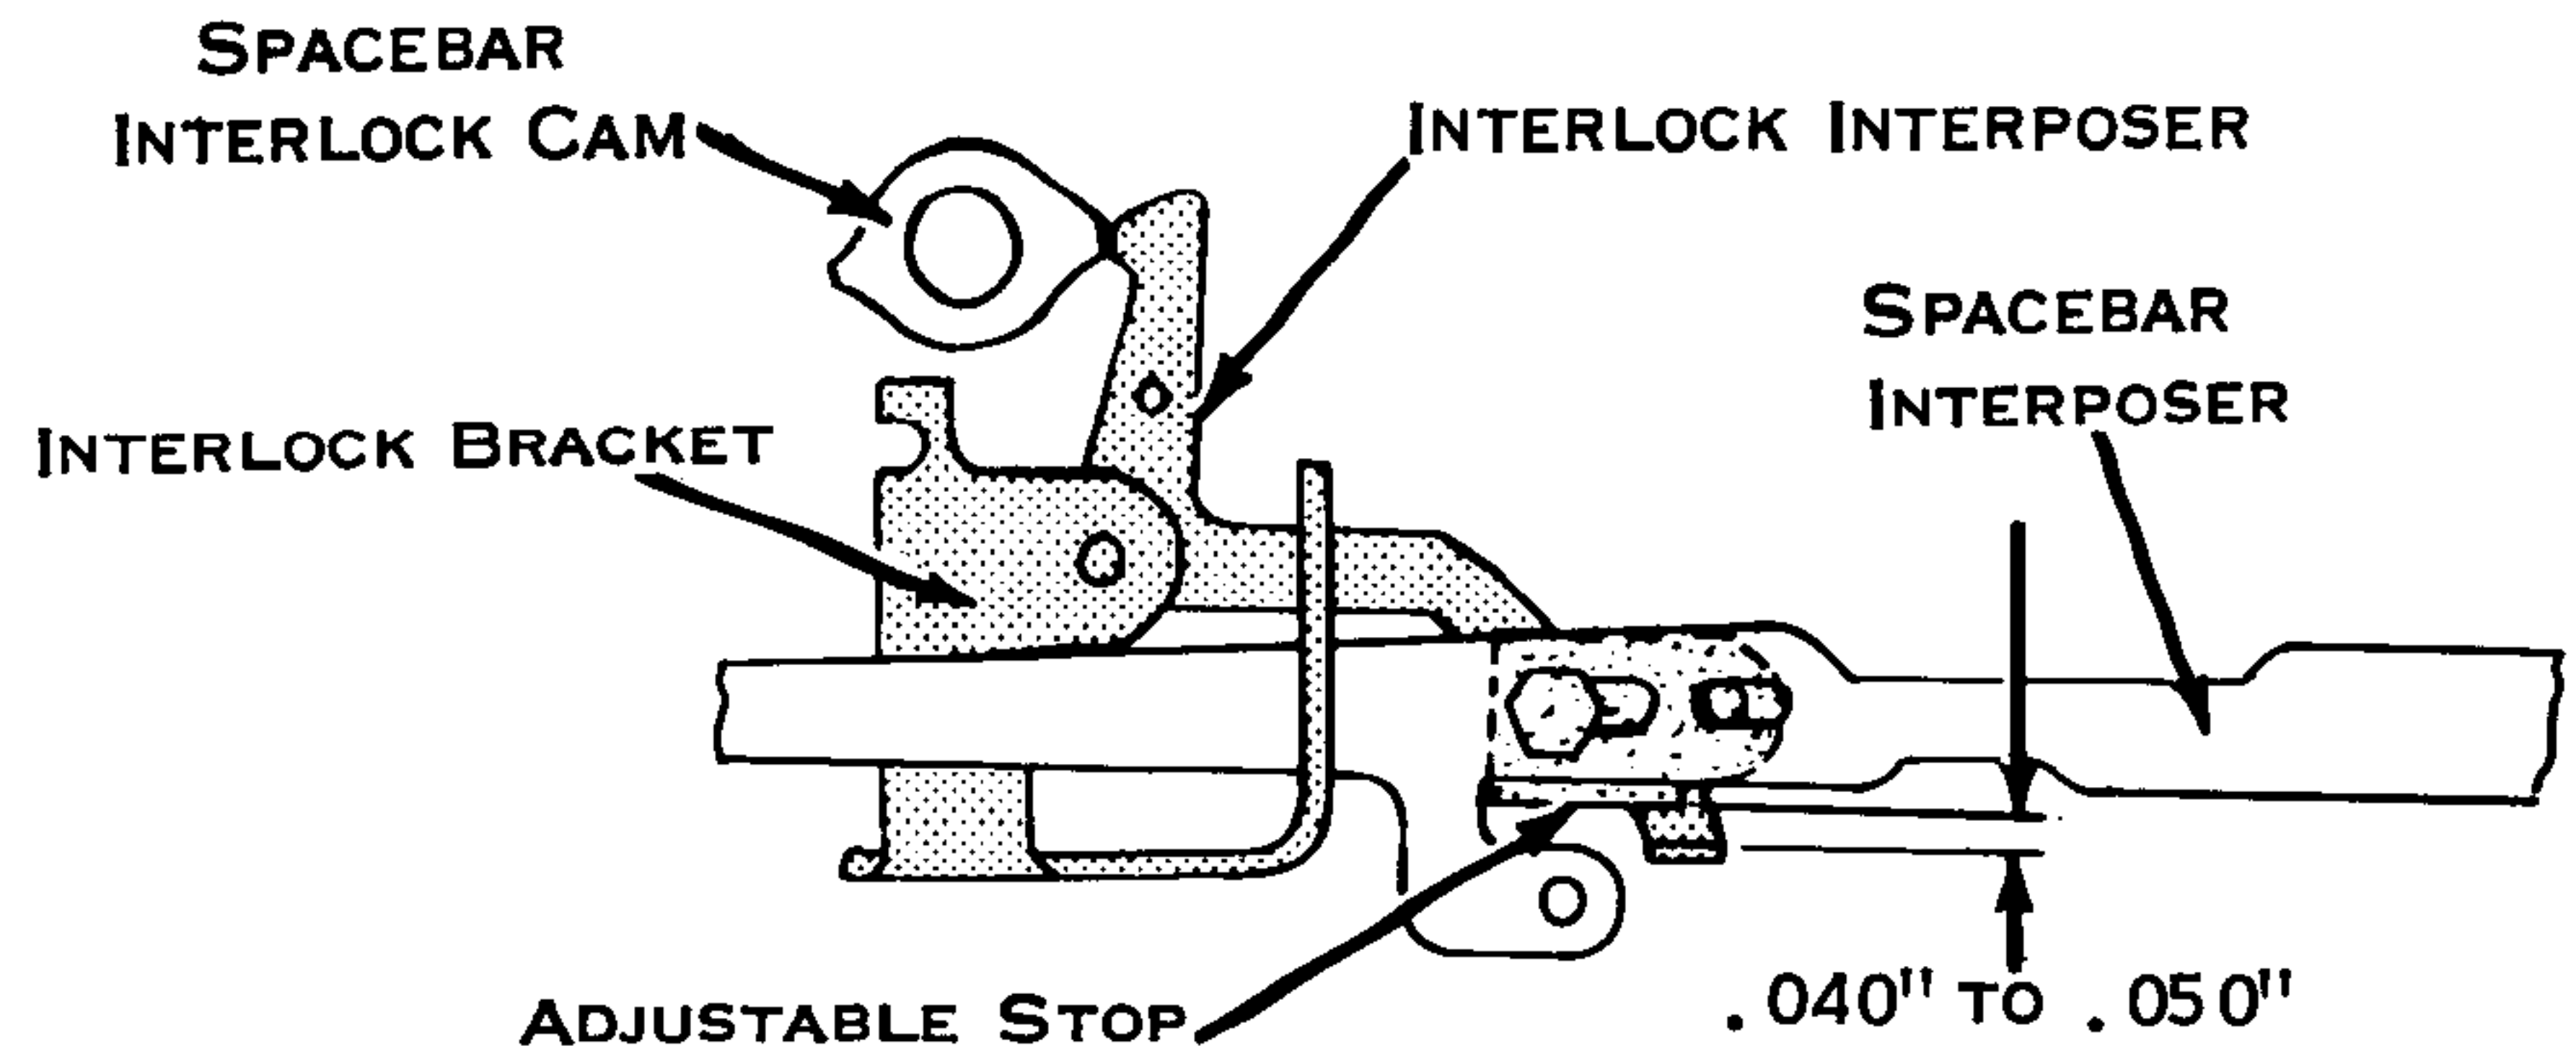

Figure 152. Interlock Bracket (New)
c. Spacebar Interlock Bracket (Fig. 152) - With the spacebar interposer tripped and the filter shaft at rest, position the interlock bracket for .040" to .050" clearance between the interlock interposer and the adjustable stop on the spacebar interposer.